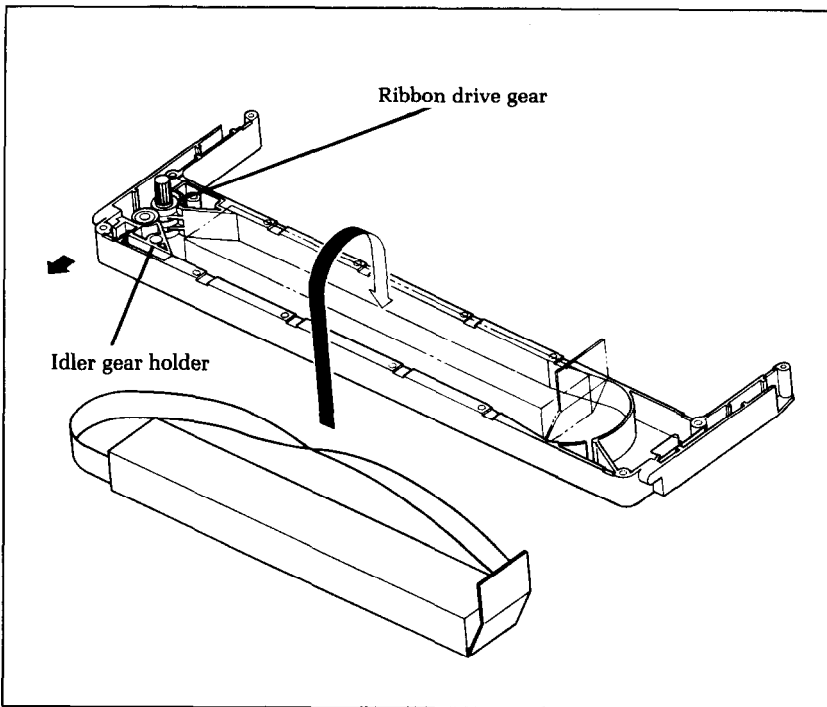

Figure 14-2. Replace the ribbon sub-cassette.
4. Press hard against the end of the idler gear holder to make a gap between it and the ribbon drive gear, and remove the old ink ribbon sub-cassette. See Figure 14-2.
6. Remove the wrapping from the new ribbon sub-cassette, remove the adhesive tape attached to the joint, and insert the sub-cassette into the ribbon cassette as shown in Figure 14-2.